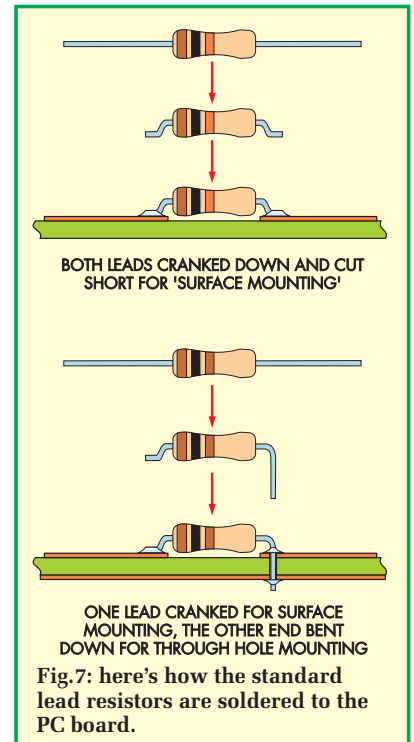

Fig.7: here's how the standard lead resistors are soldered to the PC board.
Fig.7 shows how the leads are prepared and the resistor fitted to the PC board in each case.
The remaining ‘leaded’ resistors can now be installed. Three of these have both leads cranked down as at the top of Fig.7, ie the 10kΩ collector load resistor for Q2, the 1.5MΩ bias
Diode D2 goes in next and this is fitted in the same way as the resistor shown at the bottom of Fig.7. Make sure that it's the anode (A) lead that passes down through the earthing hole.